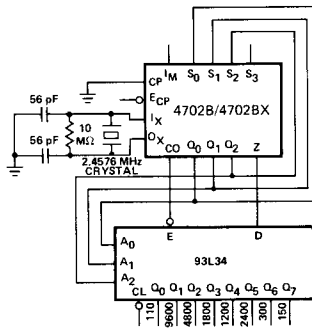

Fig. 2
**Fixed Programmed Multichannel Operation** — *Figure 2* shows a simple scheme that generates eight bit rates on eight output lines, using one 4702B/4702BX and one 93L34 8-Bit Addressable Latch. This and the following applications take advantage of the built-in scan counter (prescaler) outputs. As shown in the block diagram, these outputs (Q0 to Q2) go through a complete sequence of eight states for every half-period of the highest output frequency (9600 Baud). Feeding these Scan Counter outputs back to the Select inputs of the multiplexer causes the 4702B/4702BX to interrogate sequentially the state of eight different frequency signals. The 93L34 8-Bit Addressable Latch, addressed by the same Scan Counter outputs, reconverts the multiplexed single output (Z) of the 4702B/4702BX into eight parallel output frequency signals. In the simple scheme of *Figure 2*, input S3 is left open (HIGH) and the following bit rates are generated: